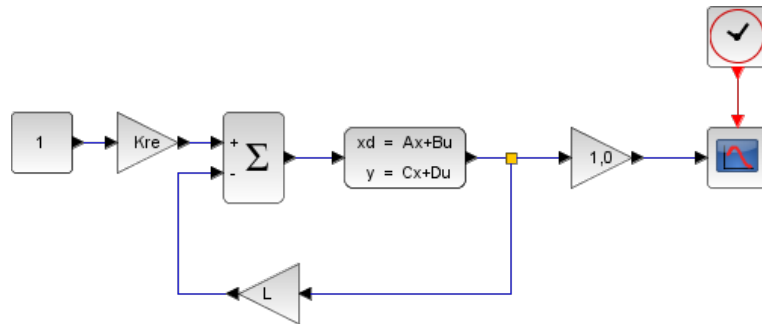

FIGURE 6 – Xcos model to simulate the step response of the robot with the state-feedback.
16. Use Xcos to experiment your state-feedback control. Construct the Xcos model depicted in Figure 6 to simulate the step response of the robot with the state-feedback control. Plug-in the following information :